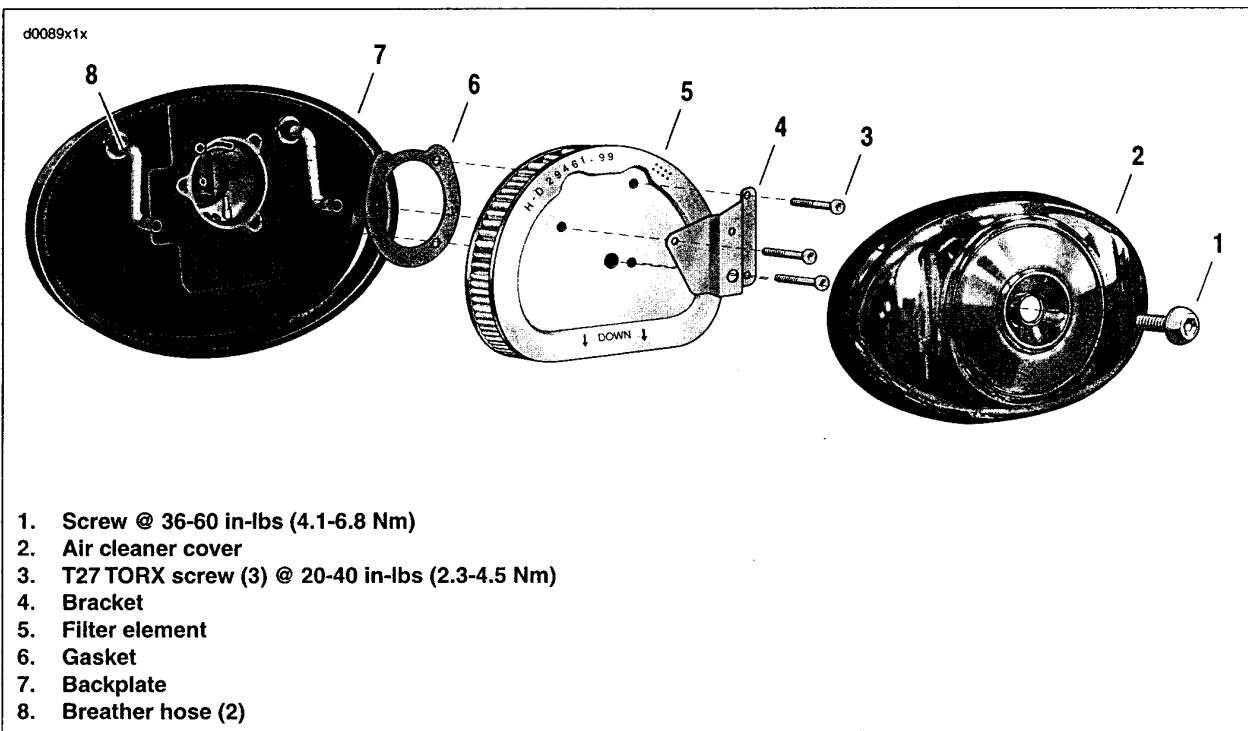

Figure 1-52. Air Cleaner Assembly
- 1. See Figure 1-52. Remove screw (1) and air cleaner cover (2).
- 2. Remove three TORX screws (3) and bracket (4) from filter element (5).
- 3. Gently pull both rubber breather tubes (8) from the back of the element. Remove filter element and gasket (6).
3. See Figure 1-52. Install air filter element and bracket.
- b. Use three TORX screws (3) to secure bracket and filter element. Tighten to 20-40 in-lbs (2.3-4.5 Nm).
4. Install air filter cover (2).
- a. Apply a drop of LOCTITE THREADLOCKER 243 (blue) to threads of air cleaner cover screw (1).